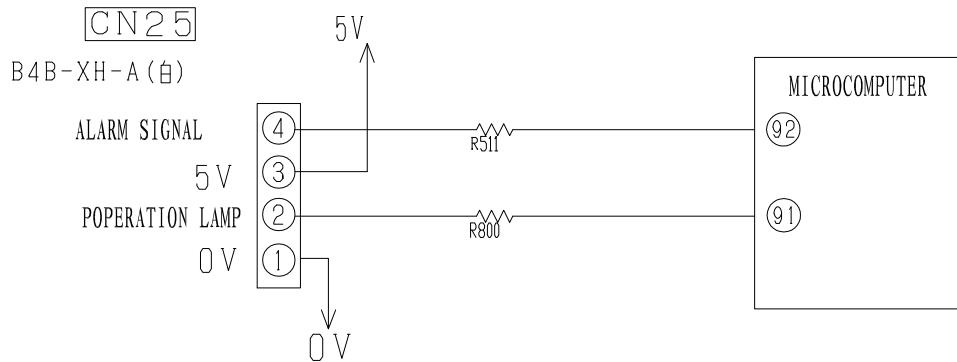

Fig.15-1
Fig.15-1 is the control circuit of run status and signal output in main PWB. The pin② of CN25 is used to show run status and the pin④ of CN25 is used to warn people when failure occurrence. If customer want to use this function, need to use the adapter(sold separately) to achieve it. the adapter is optional and the detail circuit refer to following circuit.